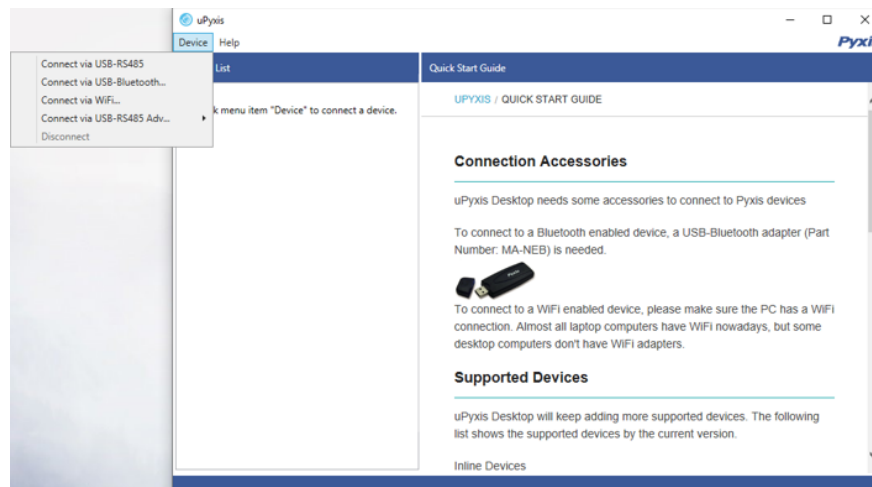

Figure 12.
3. On **uPyxis®** Desktop App, click Device → **Connect via USB-Bluetooth** or **Connect via USB-RS485** (Figure 12).
4. If the connection is successful, the ST-525 Series and its Serial Number (SN) will be displayed in the left pane of the **uPyxis®** window.